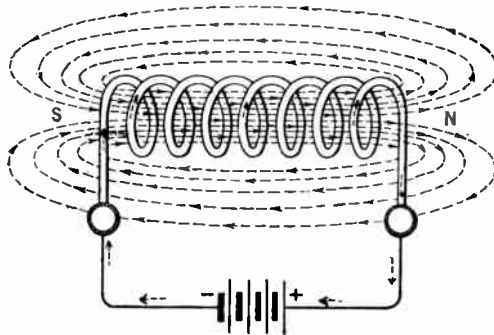

FIG. 3-12. MAGNETIC FIELD AROUND A COIL OF WIRE.
**THE COIL.** If the same conductor is wound in the form of a coil, the total magnetic field about the coil will be greatly increased because the magnetic fields of each turn add up to make one large resultant magnetic field. See Fig. 3-12. The coil is called a **SOLENOID** or **ELECTROMAGNET**. The electromagnet has a North and South pole, just like a permanent magnet. The rule for determining which end is the North pole and which end is the South pole is as follows: If we grasp the coil with the left hand so that the finger tips point in the direction of the current flow, the thumb will automatically point to the North pole of the electromagnet. Thus, we see that the polarity of an electromagnet depends upon both the way in which the turns are wound and the direction of the current flow. If we reverse either the direction of the current flow or the direction of the windings, the North pole will become the South pole, and the South pole will become the North pole.
A compass placed within a coil carrying an electric current, will point to the North pole of the coil. The reason for this is that the compass needle lines itself up in the direction of the magnetic lines of force. You will recall that inside a magnet, the direction of the field is from the South pole to the North pole. This is also true in the electromagnet illustrated in Fig. 3-12.